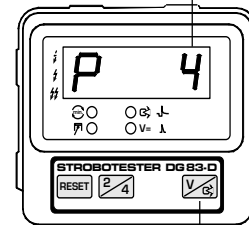

Fig. 7
- 4.1** In points systems, measurement is carried out in percentage or degrees. Connect the unit to the negative pole of the ignition coil (see Fig. 8). Press and release key . Dwell measurements in milliseconds will be displayed. Keep key pressed until P 55 is displayed. Press keys C + /- until PP (percentage) or GG (degrees) is displayed (Fig. 6). Press and release key D, P 1 will appear. For percentage measurements select the cylinder number through keys C + /- (Fig.7). For single cylinder engines or coil per plug systems select 1 cylinder and confirm by pressing key D. Press key to select 1 spark per revolution on DIS systems. For 2 sparks selection follow the instructions in chapt.3. Press key D to proceed with measurements.